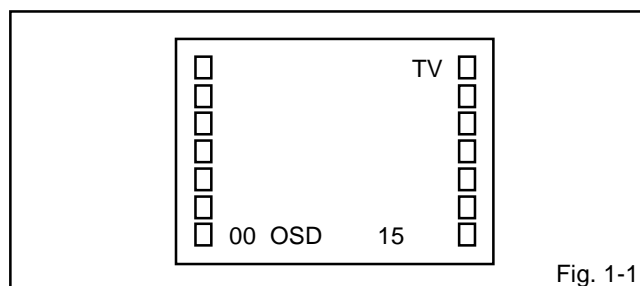

Fig. 1-1
2. Press the VOL. DOWN button on the set and the Channel button (9) on the remote control simultaneously to appear the adjustment mode on the screen as shown in Fig. 1-1.
7. Activate the adjustment mode display of Fig. 1-1 and press the channel button (03) on the remote control to select "VIF VCO".
3. Activate the adjustment mode display of **Fig. 1-1** and press the channel button (**02**) on the remote control to select "RF AGC DELAY".
5. Activate the adjustment mode display of **Fig. 1-1** and press the channel button (**01**) on the remote control to select "CUT OFF".
4. Activate the adjustment mode display of **Fig. 1-1** and press the channel button (**10**) on the remote control to select "R CUT OFF".
3. Activate the adjustment mode display of **Fig. 1-1** and press the channel button (**05**) on the remote control to select "H PHASE".
3. Activate the adjustment mode display of **Fig. 1-1** and press the channel button (**07**) on the remote control to select "V SHIFT".
3. Activate the adjustment mode display of **Fig. 1-1** and press the channel button (**06**) on the remote control to select "V SIZE".
3. Activate the adjustment mode display of **Fig. 1-1** and press the channel button (**13**) on the remote control to select "BRIGHTNESS".